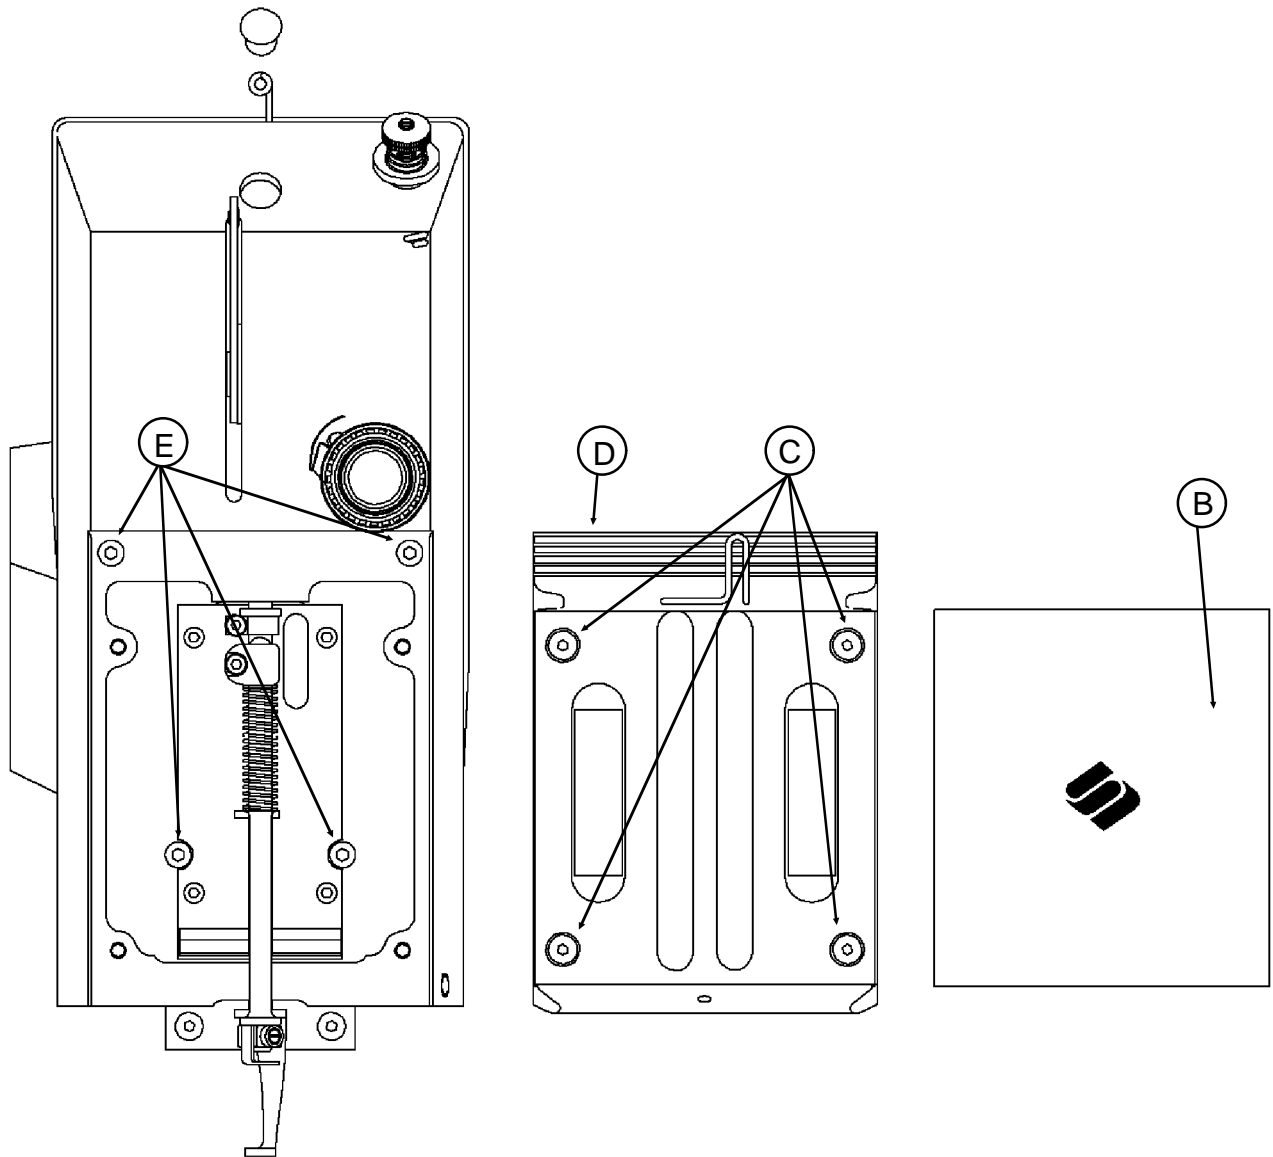

Figure 2
5. Slide the Cover Plate (Figure 2-B) off of the front of the Needle Case.
6. Remove the four Retaining Screws (Figure 2-C) holding the Needle Case Cover (Figure 2-D) on the Needle Case.
7. Remove the four Retaining Screws (Figure 2-E) holding the Needle Case on the front of the Head.